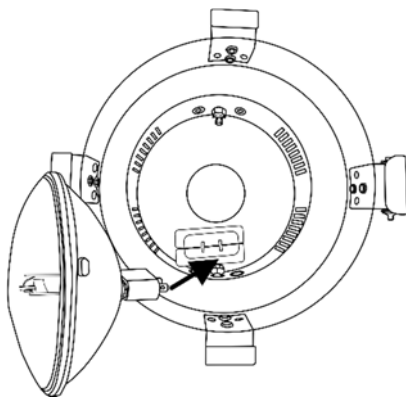

Fig. 05
- 04) Pull out the lamp holder and insert the lamp (fig. 05).